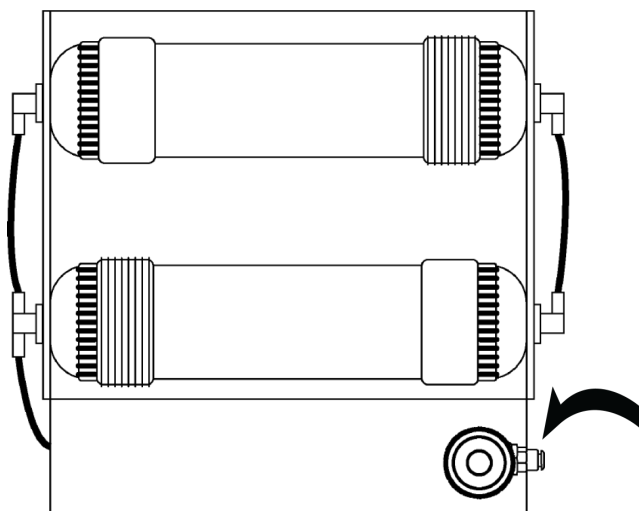

Fig 6: Water Pressure Regulator Connection
- Locate the Mains water connector (Fig 5) found inside the cabinet upon delivery. Insert mains water connector into water pressure regulator. (Fig 6 & 7)